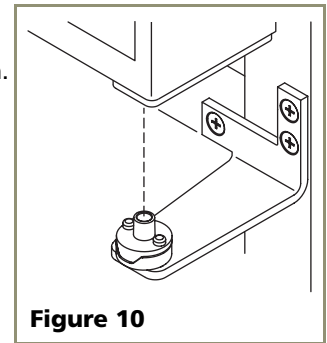

Figure 10
- Holding door upright with top of door tilted forward, place hole of door pivot plate on bottom hinge screw pin (see **Figure 10**).